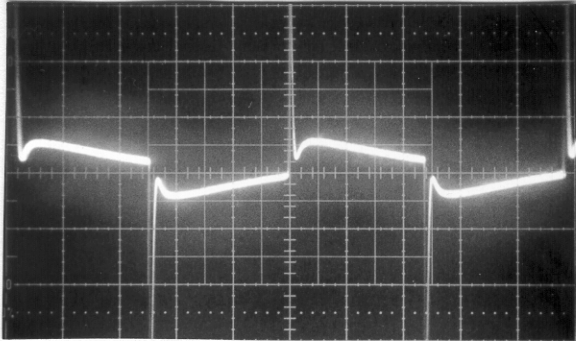
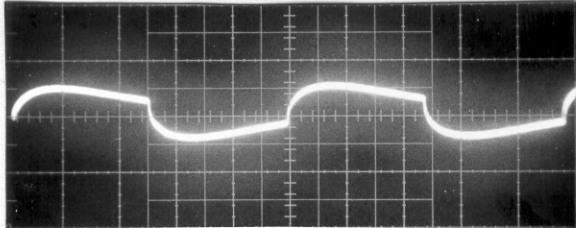

Fig. 2. Treble to 10.
Fig. 3. Treble to 0.
- A) Treble to 10- Fig.2; Treble to 0-Fig.3